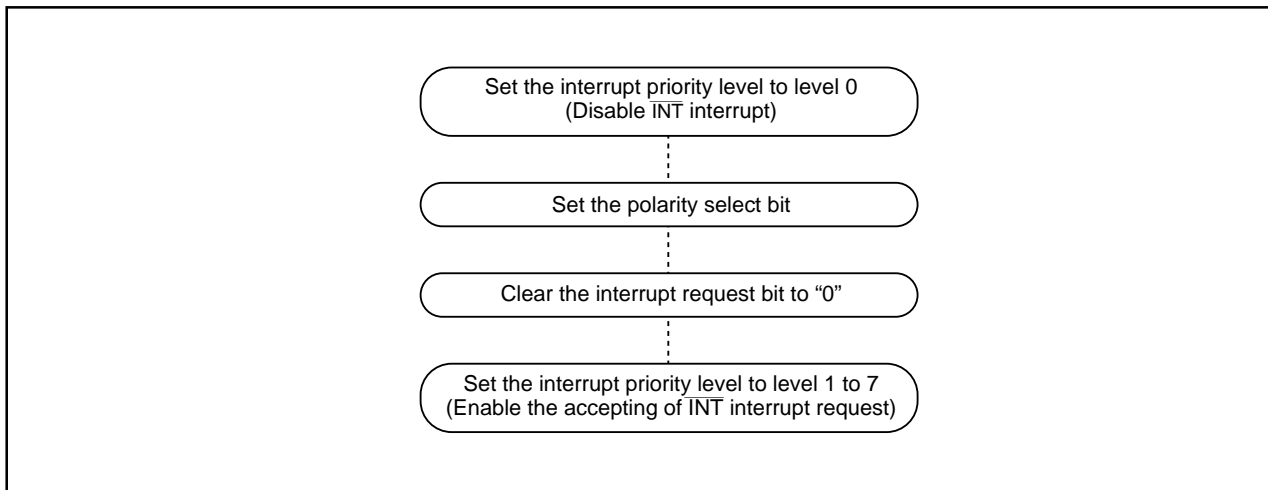

Figure 9.12 Switching condition of INT interrupt request
- When the polarity of the INT₀ to INT₅ pins is changed, the interrupt request bit is sometimes set to "1". After changing the polarity, set the interrupt request bit to "0". Figure 9.12 shows the procedure for changing the $\overline{\text{INT}}$ interrupt generate factor.